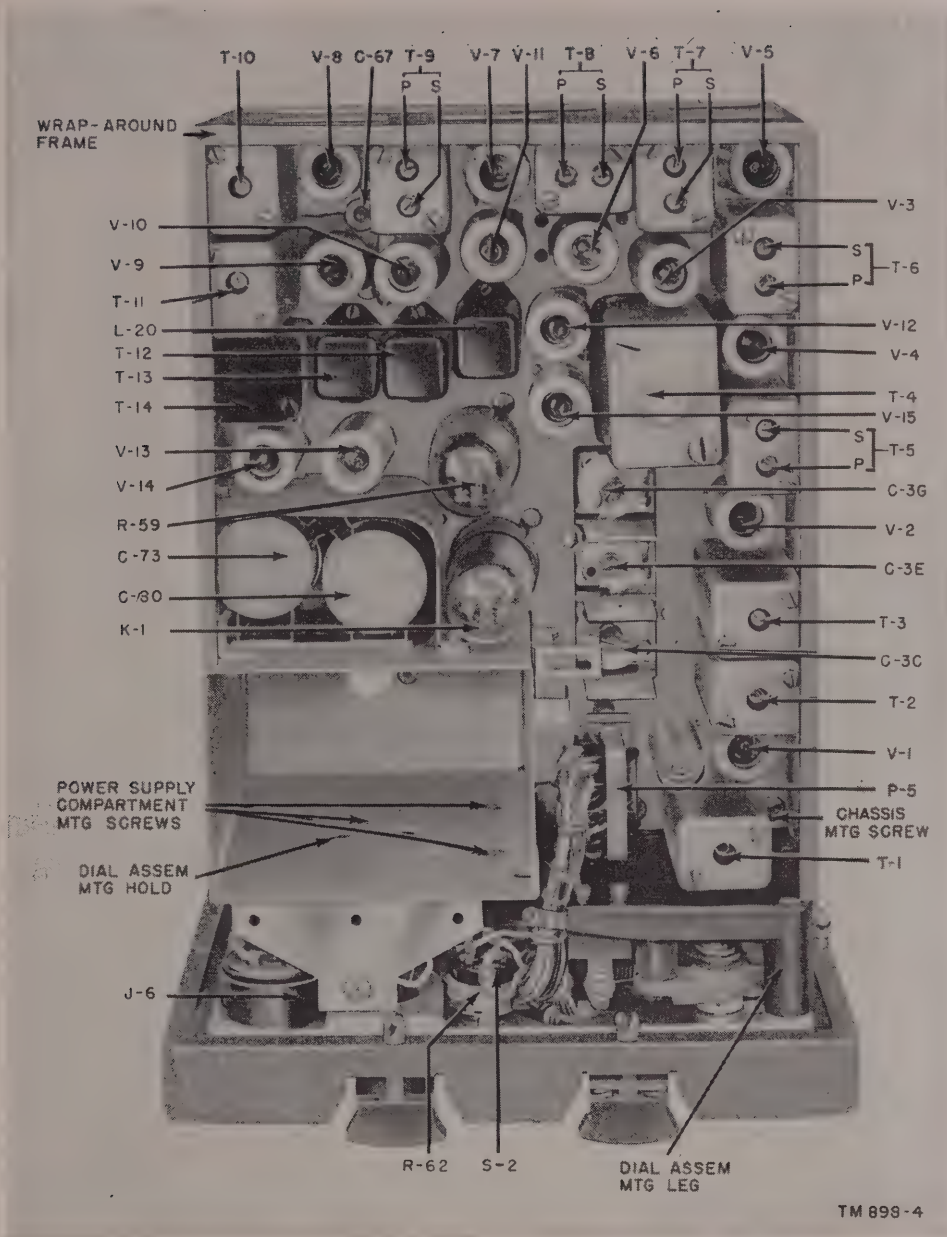

Figure 50. Auxiliary receiver panel-chassis assembly, top view.
b. TERMINAL RELAY AND BALLAST TUBE. To gain access to the thermal relay and ballast tube, remove the panel-chassis assembly from the case (par. 96). Both the relay and the ballast tube are located on the top of the chassis (fig. 50). Either component can be removed in the same manner as any standard octal-base tube. Pull straight upward; do not rock or jiggle the tube in its socket.
case is removed (fig. 50). To remove any tube, first remove the shield and then use a tube puller. Do not rock or jiggle the tubes; they may become damaged easily by careless handling.